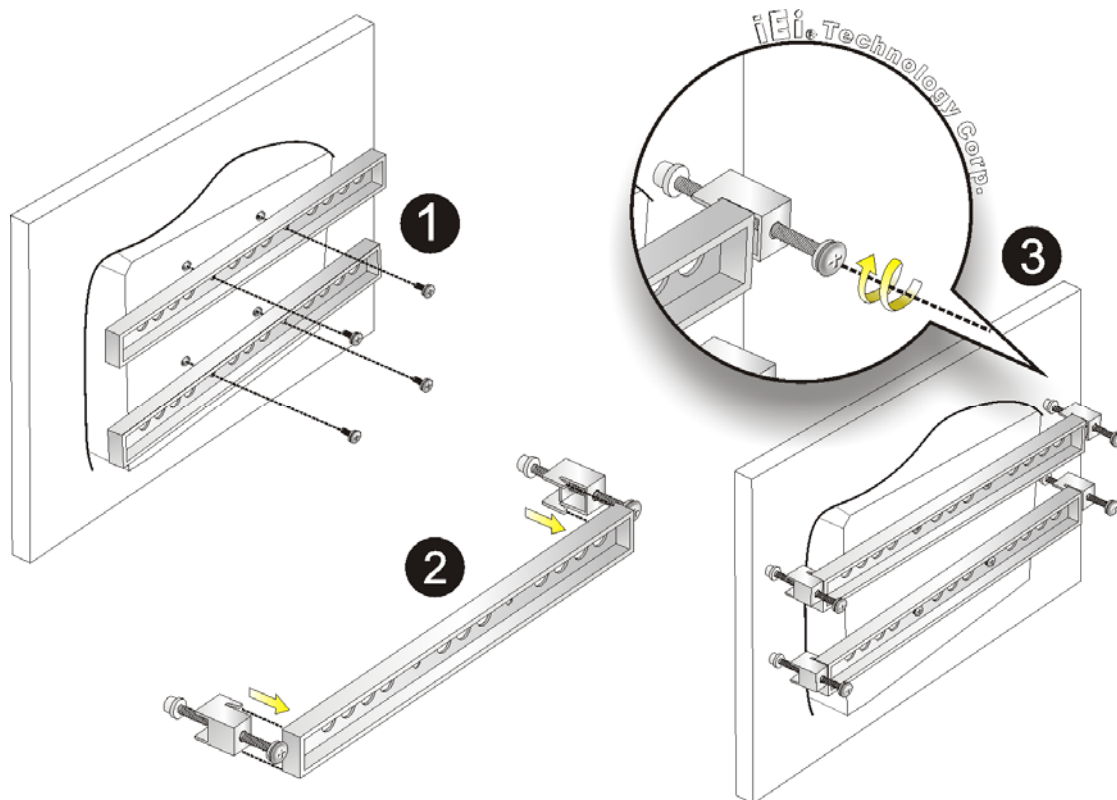

Figure 2-26: Tighten the Panel Mounting Clamp Screws
Step 5: Tighten the screws that pass through the panel mounting clamps until the plastic caps at the front of all the screws are firmly secured to the panel (Figure 2-26).